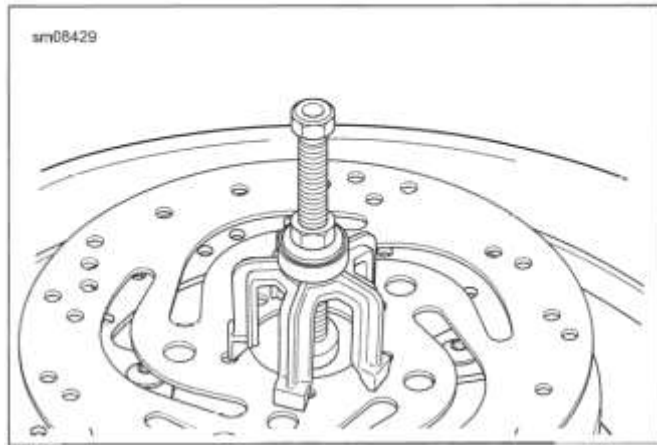

Figure 3-28. Using Scrap Brake Disc
- See Figure 3-28. If the puller bridge does not have adequate support, place a scrap brake disc having the small center hole to support the puller bridge.